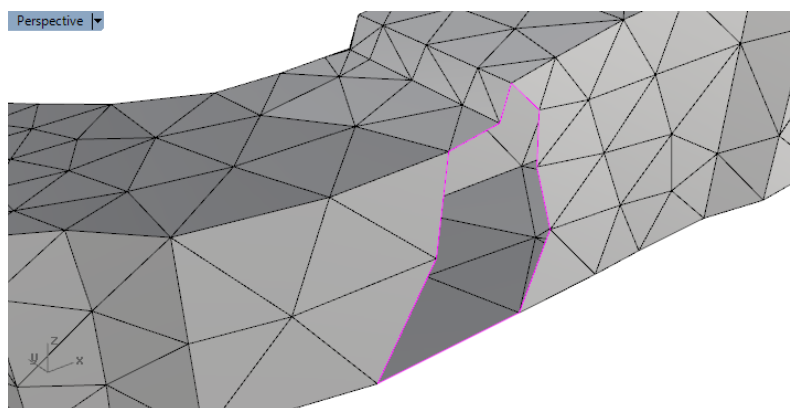

Figure 109: Mesh with overlapping triangles removed (remaining hole is outlined for clarity).
10. We will fix this intersecting area by manually deleting triangles and filling the resulting hole with new triangles. **_ExtractMeshFaces** and select the triangles near the highlighted curves, press Enter to finish the extracting and then **_Delete** these triangles. Repeat this last step until you have a hole in the side of the drift similar to that shown in Figure 109.